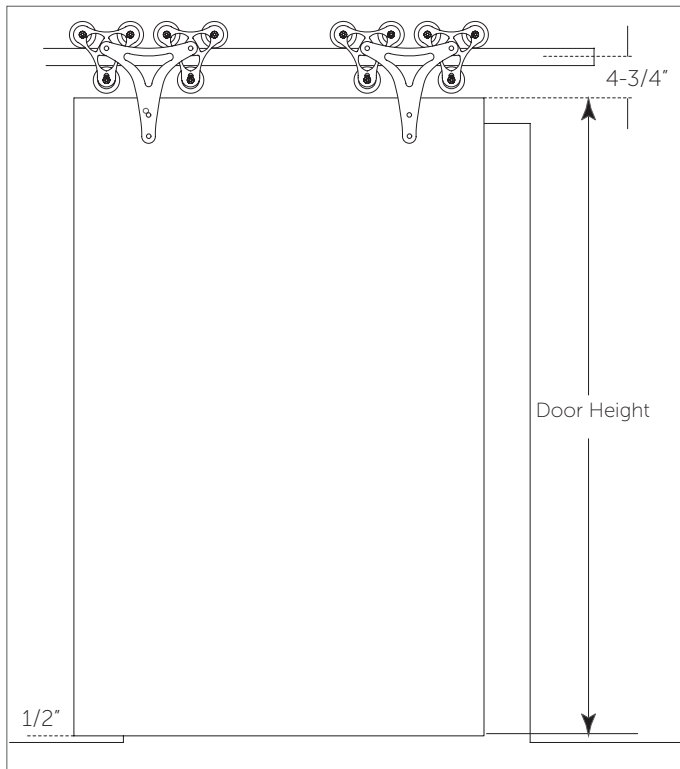

Figure 1
1. To determine where the track should be installed, first measure the height of the door, then add 5-1/4" to the door height. 1/2" will be for the clearance between the bottom edge of the door and the floor. 4-3/4" will be from the top edge of the door to the center of the track. (Figure 1).